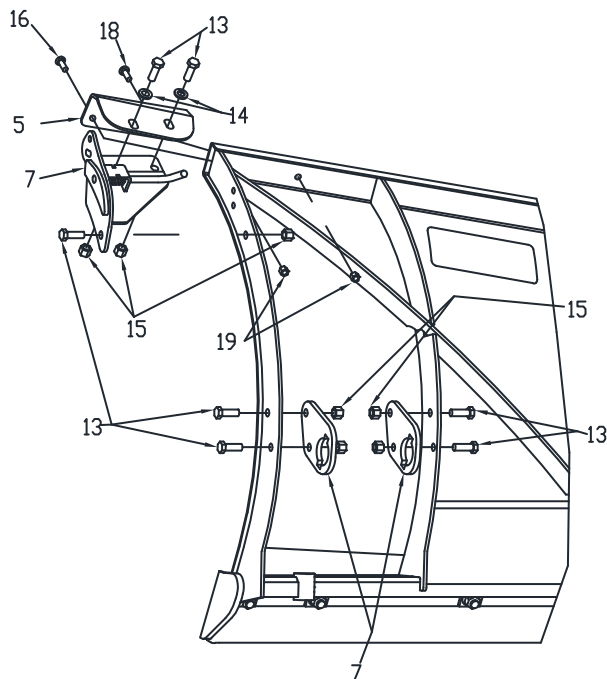

Figure 2. Mount Bracket Locations
- 7) Bolt plow rib bracket (7) to inside of the outside plow rib. See Figure 2. Do not tighten fasteners.
- 8) Bolt second plow rib bracket (7) to the outside of the intermediate rib. See Figure 2. Do not tighten fasteners.